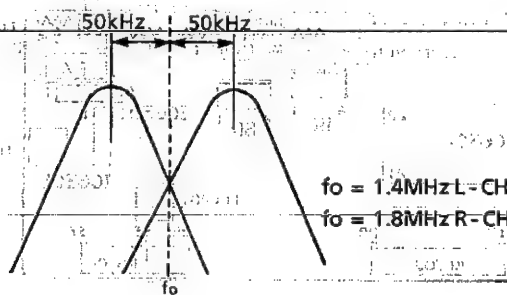

Figure. 2-7.
- 2. Observe TP6306 [TP6305] (Hi-Fi unit) and TP6307 (GND) signals by the spectrum-analyser, and adjust R6354 [R6362] so that the spectrum-analyser reads $50 \pm 5\text{kHz}$. (as shown in Fig. 2-7)